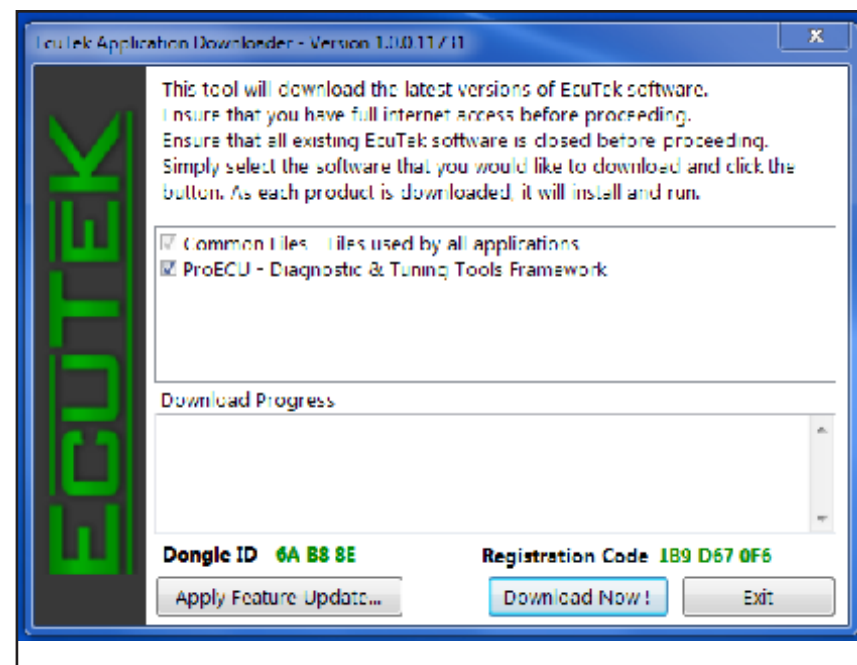

Fig. 1J
- J. After selecting [Finish], you will be prompted by a new window. Make note of the Dongle ID and the Registration Code shown on your screen. Keep this information safe, for future reference. See Fig. 1J.